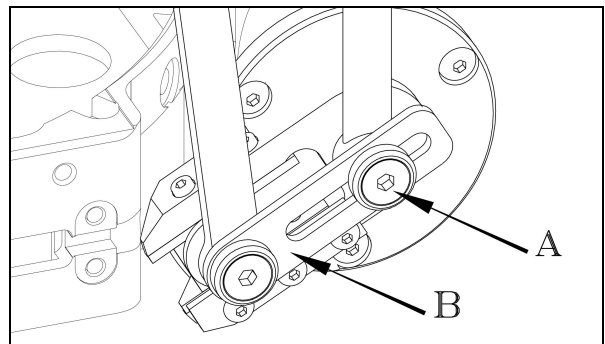

Fig 1
As shown in Fig 1, loosen screw (A) and move link (B) forward to increase the number of stitches. Move it back to decrease the number of stitches.